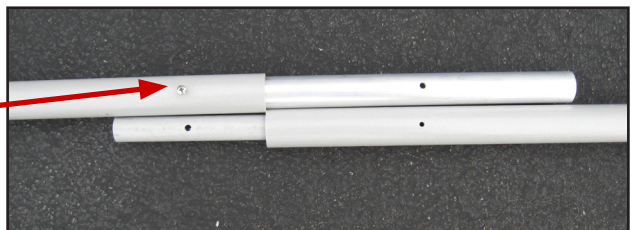

Fig. 62
- Place the Boom Center Assembly near the Driven Element Assembly. Align the holes in each as shown in Fig. 62.
- Remove the fastener shown in Fig. 62.